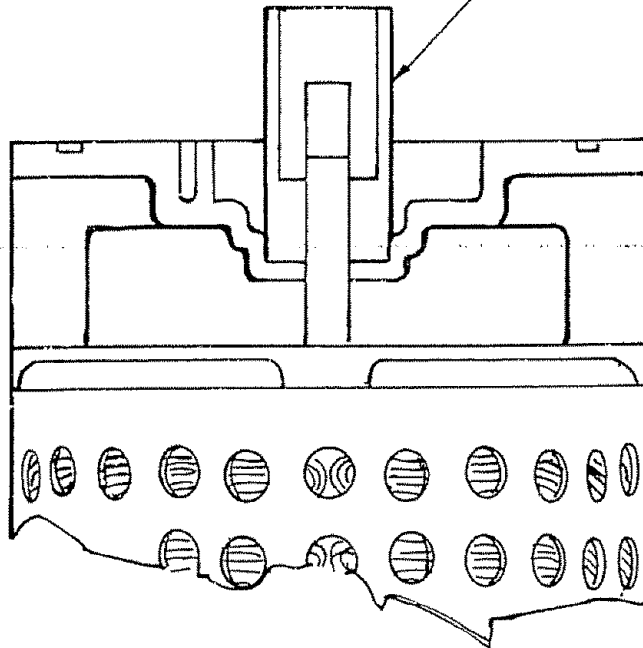

FIGURE 37
2. Remove spray arm nut, washer, spray arm, and sump cover if used. (2)
- 3 Remove upper pump housing (diffuser) (3)
- 4 Remove upper impeller, macerator blade, spacer plate, and pump plate (4)
- 5 Remove lower impeller and seals (5)
- 6 Detach motor and pump housing assembly cover, and gaskets from tub (8 screws) (6)
- 8 Install housing in same position on replacement motor. *IMPORTANT! The motor shaft must be accurately centered in the pump housing for proper operation of the pump. To assure precise centering, use Service Tool 803923 as illustrated in Figure 37, before tightening thru bolts (Available through Sears Parts Department.)*
- 9 After the pump housing has been secured to replacement motor, it is necessary to determine the correct number of shim washers to be used between the lower impeller and the motor shaft. *Shims are required to insure correct mating pressure of the water seals.* To determine the number of shims required, hold shim gauge (furnished with kit) firmly on surface of pump housing as shown in Figure 37 (Note: Shim gauge should not be on top of gasket)